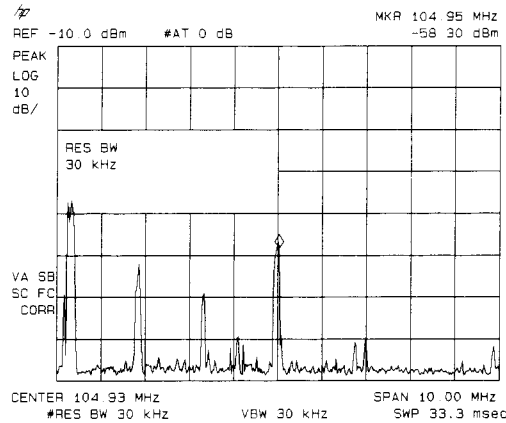

Figure 3-18. Decreasing Resolution Bandwidth
2. Press **BW** then **↓**. The low-level signal appears more clearly because the noise level is reduced. See Figure 3-18.